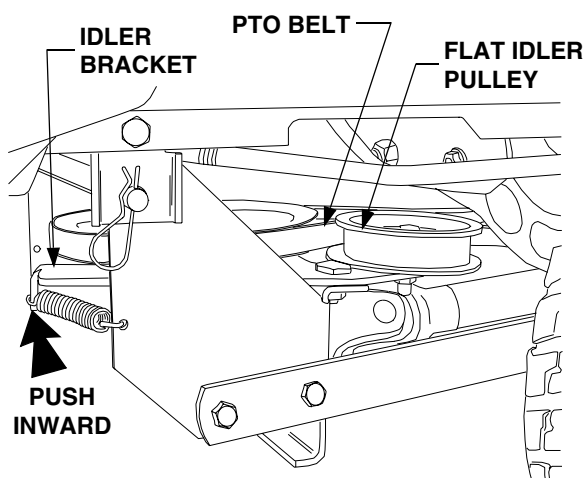

Figure 23
13. From the *right side* of the tractor, press the rearward end of the idler bracket inward to allow the flat backside of the PTO belt in the flat idler pulley. See Figure 23.
3. Press inward on the rear of the idler bracket to disengage the PTO belt from the flat idler pulley (Refer to Figure 23).